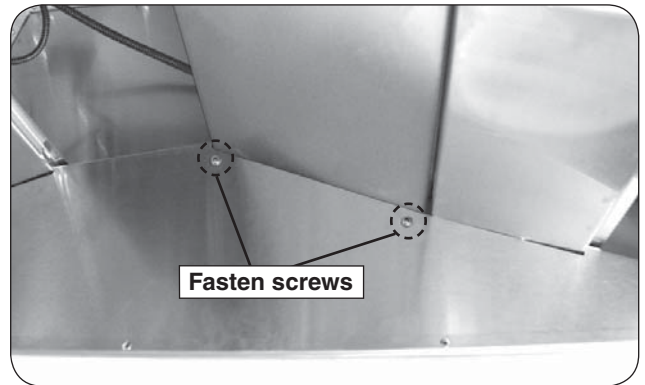

Fig. 17-2 Secure baffle
2. Align the 4 screw holes (2 on each side), then secure the baffle in place using a medium Phillips screwdriver and the supplied 8-32 x 3/8" screws (that were originally removed at beginning of installation). See Fig. 17-2.